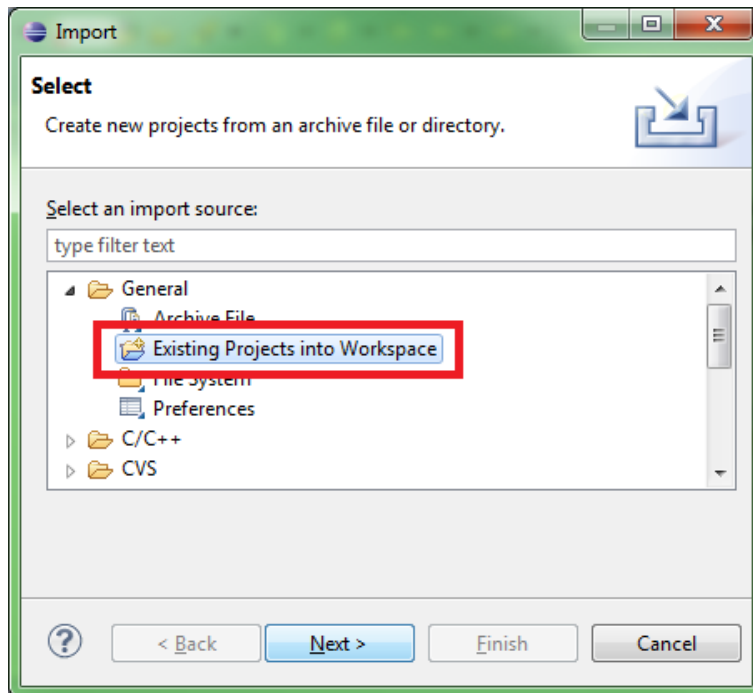

Figure 8 - (import ...) Select General > 'Existing Projects into Workspace'
2. Select 'General' > 'Existing Projects into Workspace' and click Next. See Figure 8.